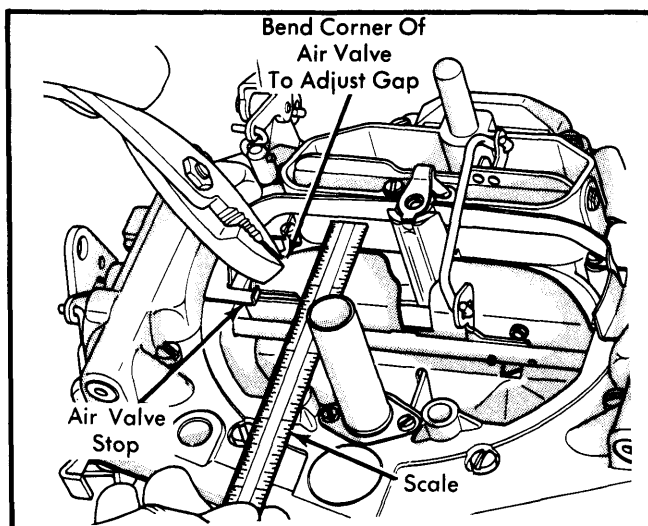

Fig. 4 Adjusting Air Valve Gap
1) Hold secondary air valve wide open. Measure specified gap between raised edge (short side) of air valve and air horn wall. See Fig. 4.
1) Open throttle and close choke. Now close throttle to trap fast idle cam at closed choke position. See Fig. 4.